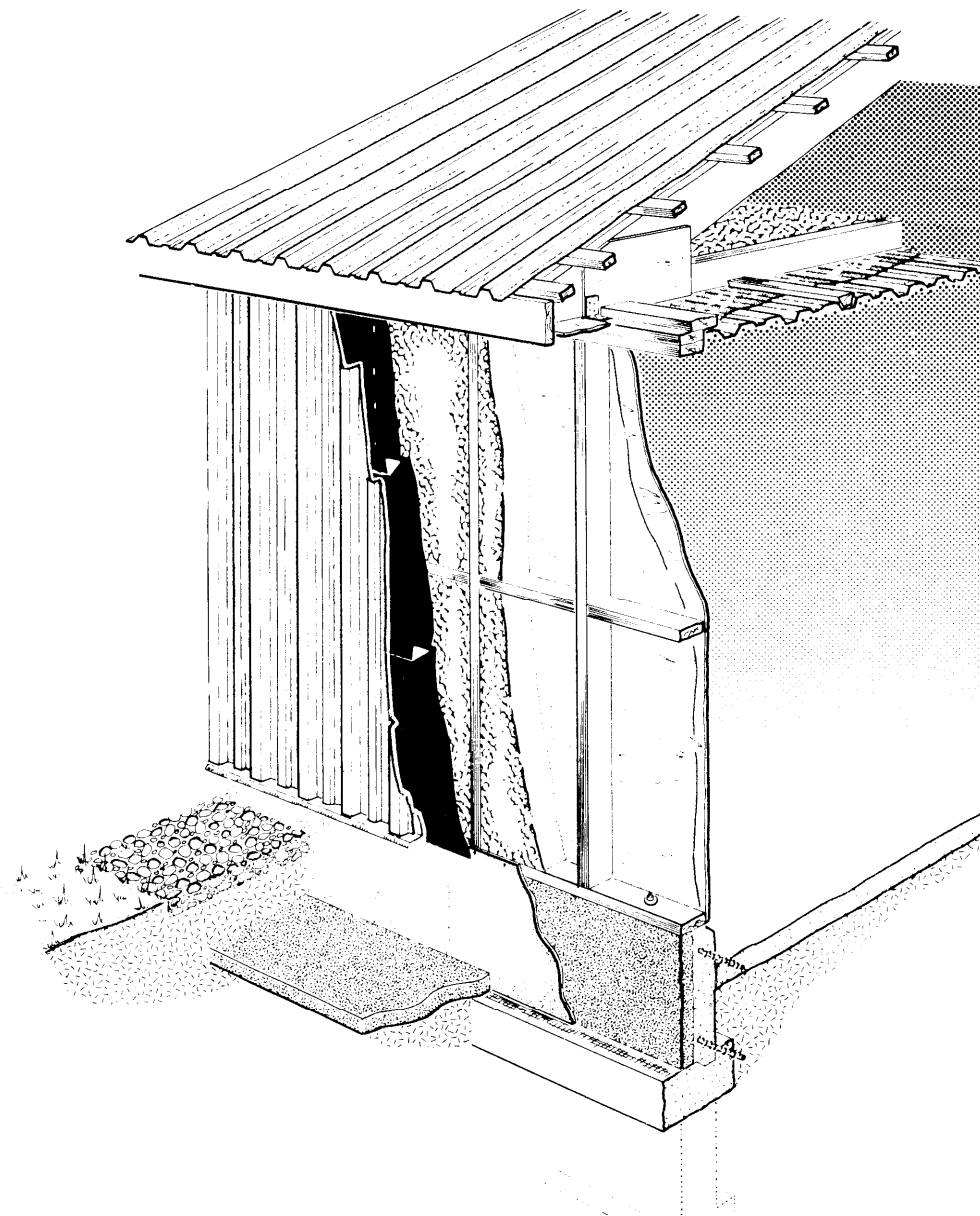

Figure 2
**PREVENTING FROST HEAVE** The traditional way to prevent frost heave and cracking due to water and soil freezing beneath the footings is to place the footings below the depth of frost penetration (see Figure 1). In colder parts of Canada this means a very deep footing, which requires a lot of concrete and costly formwork. Around buildings kept heated throughout the winter, frost penetration is much reduced by the heat flowing outwards from the warm floor. And where exterior perimeter insulation is added, soil seldom freezes below the bottom edge of the insulation since the whole foundation is kept warmer by the insulation. This plan shows an optional shallow footing only 500 mm below grade (see Figure 2). For very cold regions such as the Canadian prairies, Northern Ontario and Northern Quebec, additional insulation is extended horizontally, just above the footing. This must be supported flat, on compacted sand. This exterior horizontal insulation is cheaper than a deep footing, is just as effective at preventing frost heave, and further reduces perimeter heat losses.
Horizontal wood strapping may be added to support vertical metal siding if preferred, but this has no structural advantages. Another choice is to screw vertical steel to the bottom sill, mid-height blocking and top plate as shown in Figure 2, in this case use the more rigid diamond-rib siding profile and space the blocking at not over 1200 mm. In all cases be sure that metal flashings are designed and *carefully fitted* to keep rodents out of the wall space.